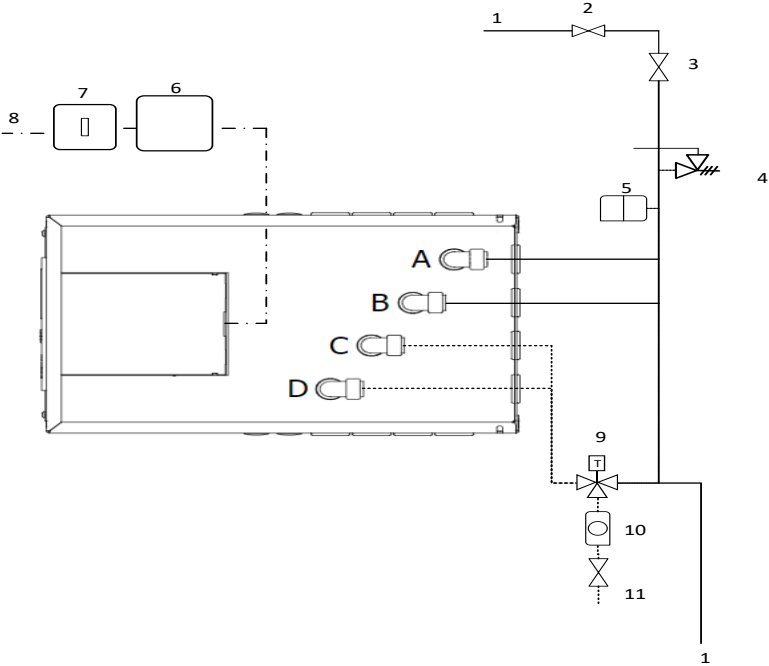

Figure 13.1: **UniQ eHW 12 +iPV** schematic (see Figure 3a for piping and electrical options available)
- If installing a UniQ HW +iPV, the Mains cold water supply should be connected to Heat Battery connection 'A'. The hot water outlet should be connected to 'D'. External heating source Flow should be connected to Heat Battery connection 'B' and External heating source Return should be connected to Heat Battery connection 'C'. Meanwhile a UniQ eHW +iPV the Mains cold water should be connected to the Heat Battery connection 'D'. The hot water outlet should be connected to 'A'. The UniQ eHW +iPV 12, the Mains cold water supply should have a branched connection into Heat Battery connection 'A' & 'B'. The hot water outlet should have a branched connection into Heat Battery connection 'C' & 'D' (see Figure 13.1).
- Run and connect 4 Core mains power supply cable (16A, minimum 2.5mm² CSA) from the Solar Power Diverter to the Heat Battery. (Figures 13.1, 13.2, 13.3 & Section 3.9).
Table 13.2: Explanation of components for Figure 13.1 and 13.2.